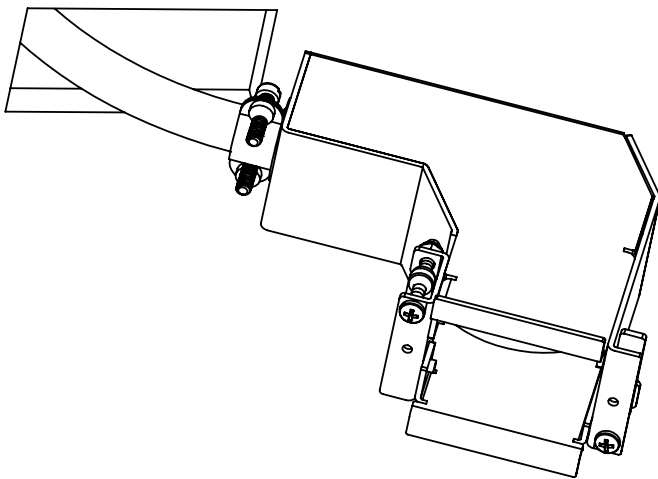

Fig. 3
13. Feed the Minibox into the wall opening at a slight angle (Fig. 3) until the **side tabs** are pressed against the mounting surface. (Fig. 3) While keeping the side tabs pressed against the mounting surface, secure the Minibox to the mounting surface by